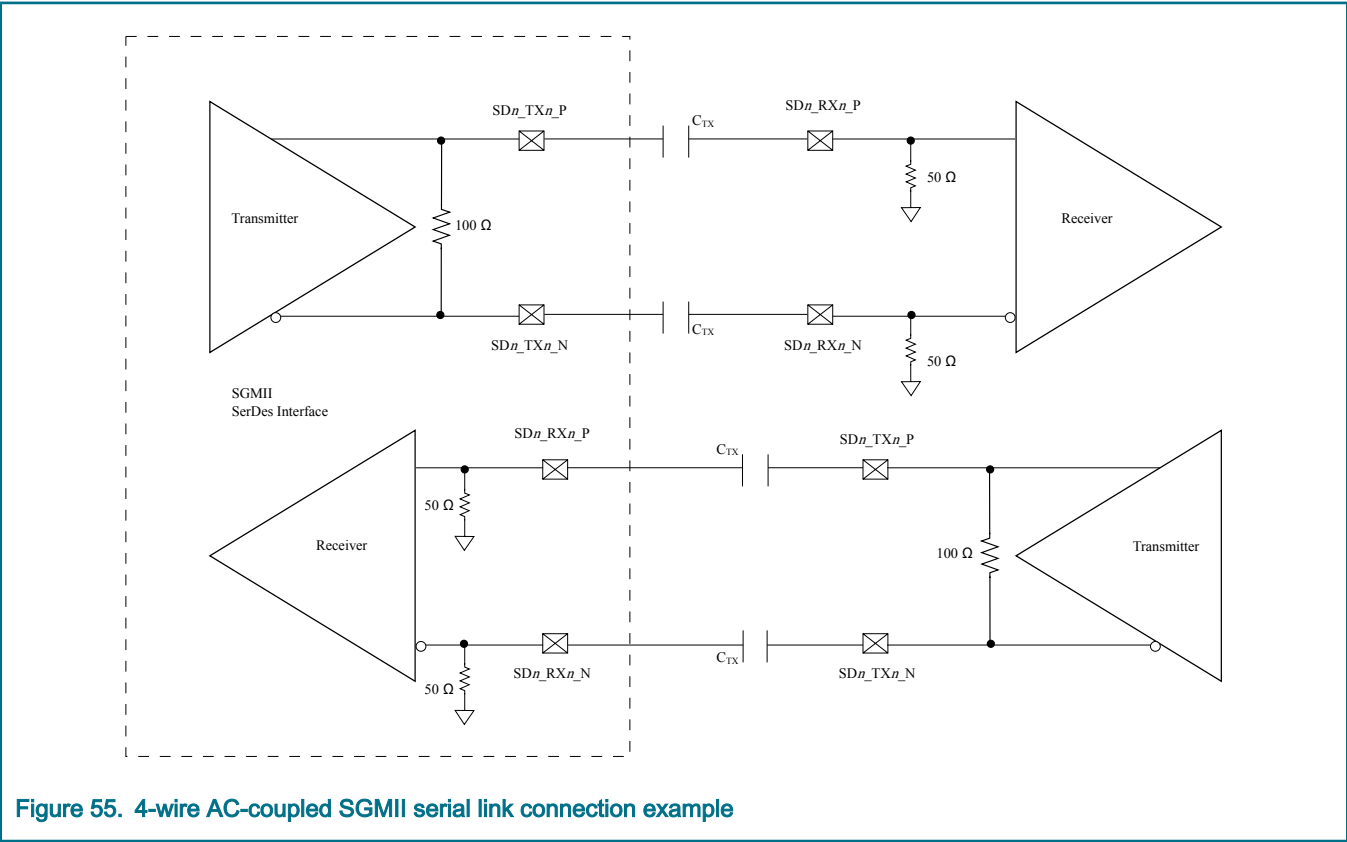
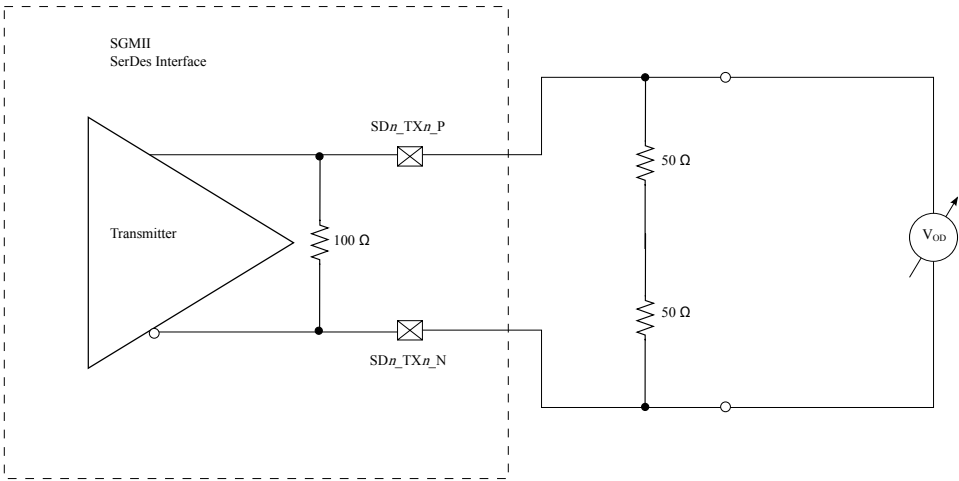

Figure 55. 4-wire AC-coupled SGMII serial link connection example
Figure 56. SGMII transmitter DC measurement circuit
3. $V_{OD} = V_{SD_TXn_P} - V_{SD_TXn_N}$. V_{OD} is also referred to as output differential peak voltage. $V_{TX-DIFFp-p} = 2 \times V_{OD}$. 4. The V_{OD} value shown in Typ column is based on the condition of $XnVDD-Typ = 1.35\text{ V}$, no common mode offset variation. SerDes transmitter is terminated with $100\text{-}\Omega$ differential load between SDn_TXn_P and SDn_TXn_N. 5. <code>LNmTECR0[EQ_AMP_RED]=0b000000</code> 6. <code>LNmTECR0[EQ_AMP_RED]=0b0000001</code> 7. <code>LNmTECR0[EQ_AMP_RED]=0b0000011</code> 8. <code>LNmTECR0[EQ_AMP_RED]=0b0000010</code> 9. <code>LNmTECR0[EQ_AMP_RED]=0b0000110</code> (default) 10. <code>LNmTECR0[EQ_AMP_RED]=0b0000111</code> 11. <code>LNmTECR0[EQ_AMP_RED]=0b010000</code> 12. See Figure 55. 13. See Figure 56.